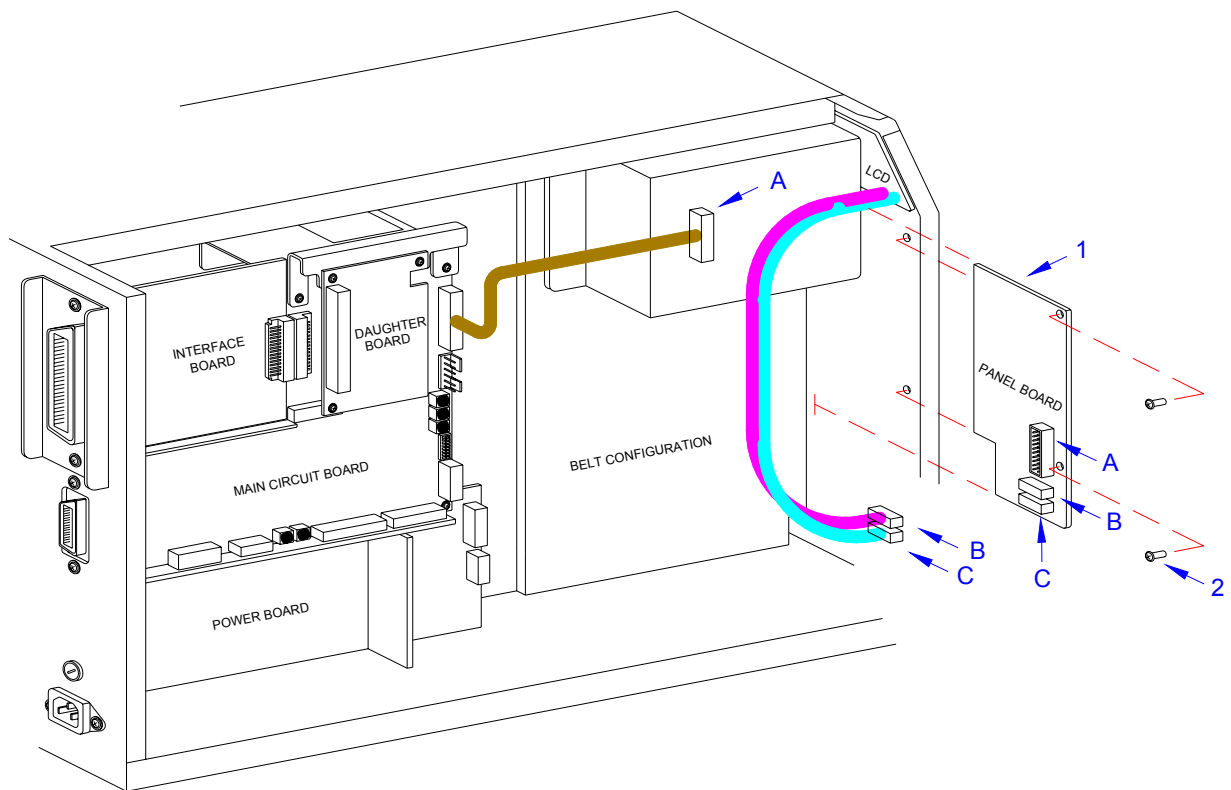

Figure 7-6, Panel Board Replacement
- 3 Locate panel board (1, Figure 7-6) mounted to the interior of the front cover.
- 4 Disconnect wiring harnesses (A), (B), and (C).
- 5 Remove two screws (2) securing panel board (1) to the printer.
- 6 Manipulate panel board (1) laterally from within the printer.
- 7 Insert replacement panel board (1) behind the face cover so that the boards buttons are aligned with their respective slots in the cover.
- 8 Connect harnesses (C), (B), and (A).